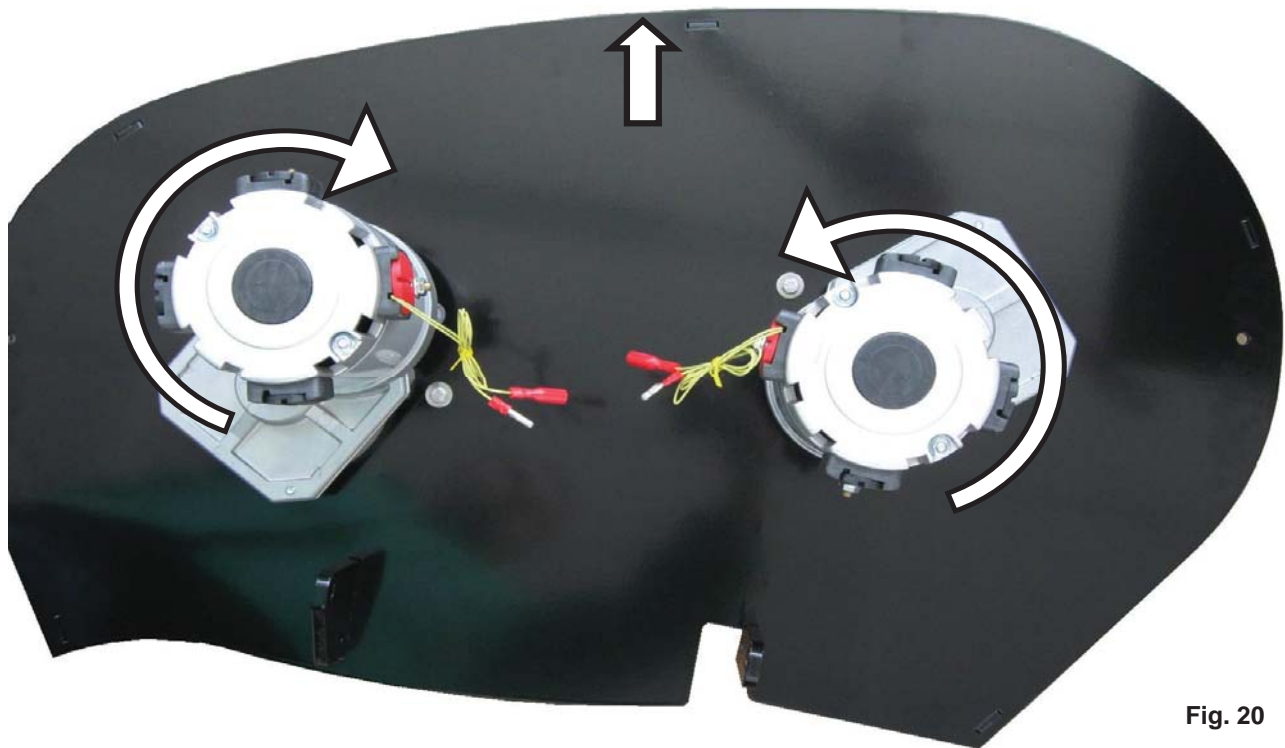

Fig. 20
- 3  Respect the positioning of the reduction drives on the brush head plate, see Figure 20. Check the direction of rotation of the brushes see Figure 46, the right brush must rotate *anticlockwise*, and the left brush *clockwise*. If this is not the case, reverse the electrical cables to the motor that is rotating in the wrong direction, paying special care to the motor that is powered directly from the machine's wiring, as reversing the cables on this will also reverse the rotation of the other motor.